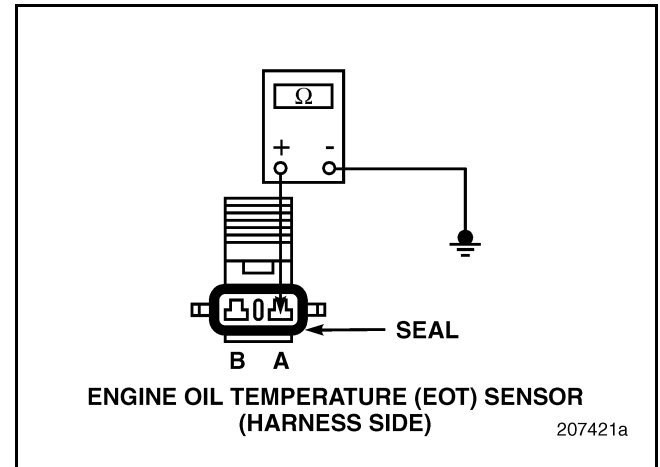

Figure 271
4. Check for continuity between pin A of the EOT Sensor harness connector and a good ground (see Figure 271).